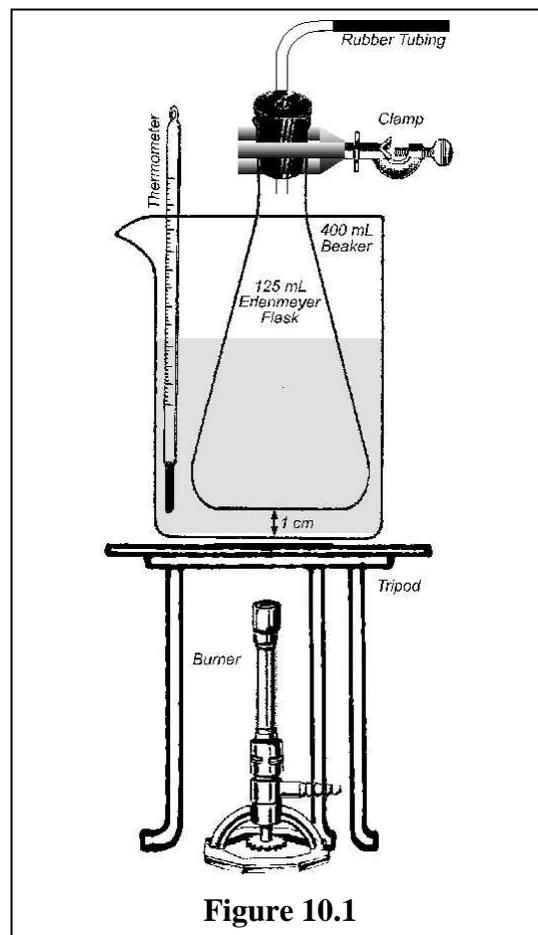

Figure 10.1
2. Fit the flask with a one-hole rubber stopper inserted with a short piece of dry glass tubing. Add rubber tubing to the end of the glass tube and assemble the apparatus as shown in Figure 10.1, using the 125 mL flask and a 400 mL beaker. Be sure that the stopper fits tightly in the flask, the glass tubing fits tightly in the rubber stopper, and the rubber tubing fits tightly on the glass tubing. (The latter may require a hose clamp or wire winding.) Leave a 1 cm gap between the bottom of the flask and the beaker.